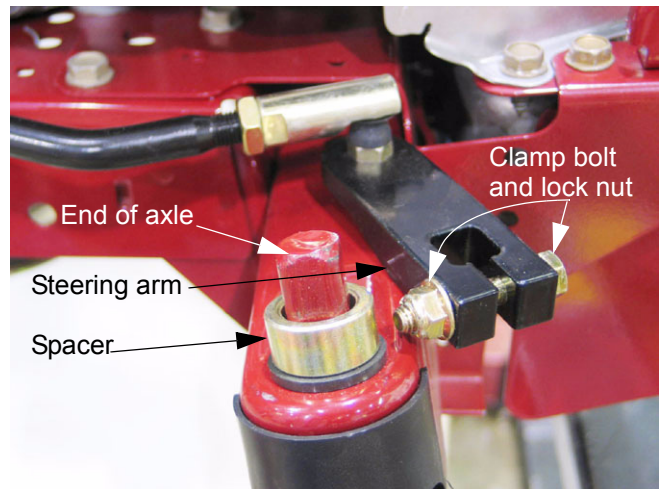

Figure 14.10
- 14.10. The right side axle can be removed from the pivot bar by loosening the clamp bolt that secures the steering arm to the square-section at the top of the axle using a pair of 1/2" wrenches, and lifting the arm off. See Figure 14.10.